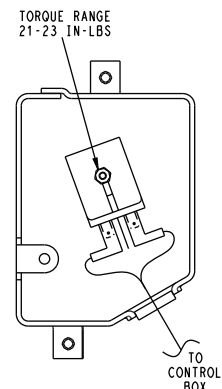

Fig. 153 — Digital Unloader Solenoid Valve
6. If the compressor is a digital compressor, remove the digital unloader solenoid (Fig. 153). Save the mounting screw for re-installation later. Remove the harness from the junction box.
25. If the compressor is a digital compressor, connect the digital unloader solenoid as shown in Fig. 153.